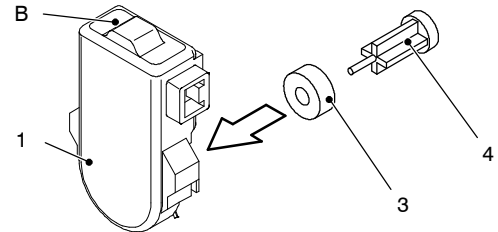

Fig. 59
- 3 Hold the flow switch sensor 1 and bring the ring in touch with the sensor as illustrated in Fig. 59.